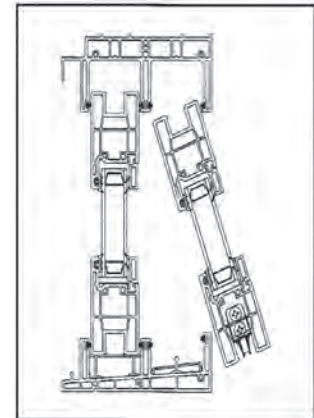

Fig. 9
- 1) From the interior side, insert the operating panel top into the interior pocket of the frame head. The interlock must be to the center of the frame facing the outside of the house. (Fig. 9)